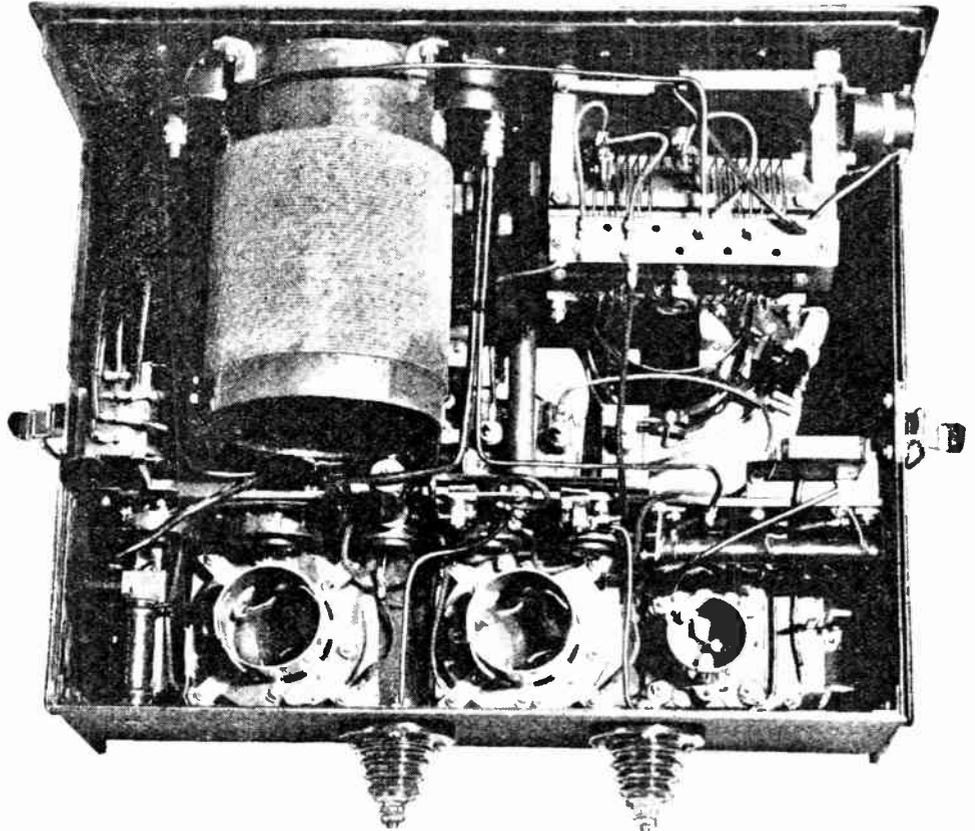

Fig. 2.—Interior of transmitter. The long-wave tuning coils are on the left and the short-wave on the right
Fig. 2.—Construction of tuning coil. A has 125 turns of No. 32 D.S.C. tapped at the 25th turn. B has 29 turns of 27/42 Litzendraht, and C, 6 turns of No. 32 of D.S.C.
The construction of the coil will be understood by referring to Fig. 2. A piece of ebonite 4in. external diameter by 6in. long, has at one end a winding of 29 turns of 27/42 Litzendraht wire. This is coil B, and the winding is commenced 5/8in. from the end of the former. Its ends are connected to points 1 and 2, and the turns are wound touching, making the winding length 1.1in. long. If Litzendraht is not available, a fairly good coil can be made of the same number of turns of No. 20 D.S.C. wire. Coil C should be wound at the end of coil B, and comprises 6 turns of No. 32 D.S.C. copper wire wound in the same direction. Its beginning end is connected to soldering tag (3), while its finishing end goes to soldering tag (5), the connections being made
inside the tube. Coil A may now be wound, and comprises 125 turns of No. 32 D.S.C. copper wire with a tap at the 25th turn, as shown in Fig. 2. The length of coil A is 1.75in., and it will be noticed that one end is connected to tag (2), while its other end is connected to tag (5). The tap is taken to tag (4). These tags are held by small 4 B.A. screws and nuts.
The transmitter is designed to operate on 45 metres and 600 metres. Fig. 1 gives a general view of it, while Fig. 2 shows the internal arrangements. The receiver, shown in the title of this article, has a double wave range: 45 metres, and 550 to 850 metres.